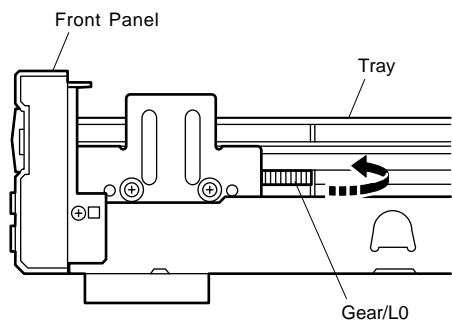

Fig. 2
- Turn Gear/L0 as shown in Fig. 2 counter clockwise gradually until immediately before the tray starts to move and stop it there.